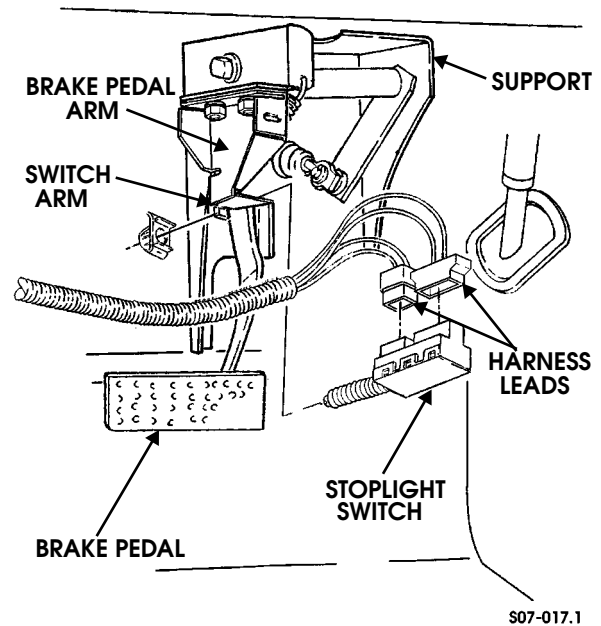

Figure 10-181: Stoplight Switch Replacement
1. Disconnect two harness leads from stoplight switch (Figure 10-181).
1. Install stoplight switch into bracket (Figure 10-181).